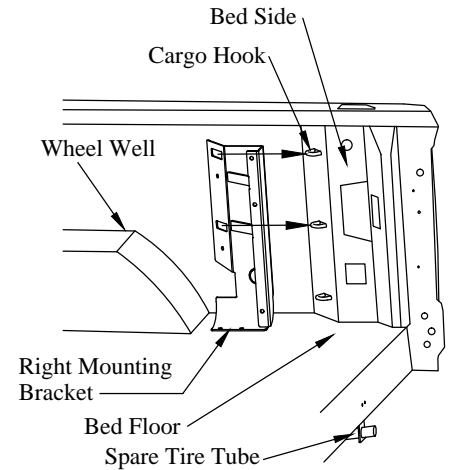

Figure 12: Mounting bracket location.
1. **Position** the mounting brackets into the truck bed over the cargo hooks (Figure 12). Do not drill holes for mounting brackets at this time.